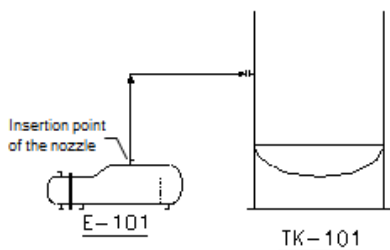

Figure 2-40 Insertion point of the nozzle, and line connecting the vessel and the heat exchanger
- Specify the insertion point, refer to Figure 2-40, and then specify the rotational angle as 90-degrees.
- Move the cursor horizontally toward right and specify the endpoint on the vessel; the line connecting the vessel and the heat exchanger is created, refer to Figure 2-40.